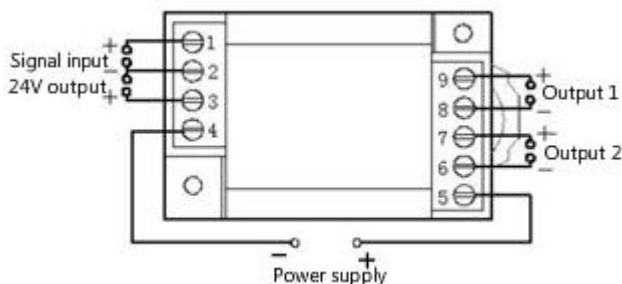

Figure 4 IZ28/VZ28 connection diagram
- ①M3 screw hole in the fixed plate according to the screw hole position shown in Figure 4;
- ②Use the M3 screw to insert into hole and fix it.